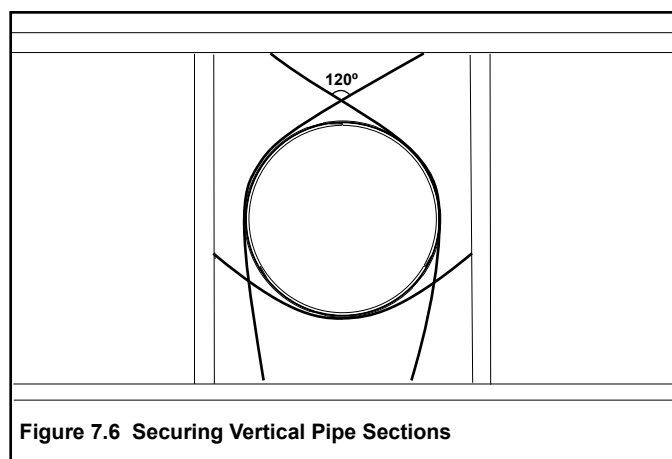

Figure 7.6 Securing Vertical Pipe Sections
- Vent supports or plumbers strap (spaced 120° apart) may be used to support vent sections. See Figures 7.6 and 7.7.